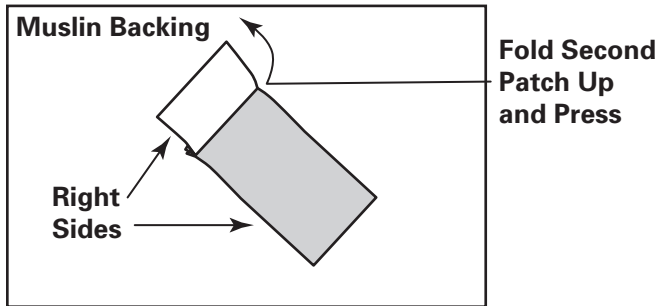

Fig. 9-3
4. Fold the second patch right side up and over the seam allowance. Press flat. Pin the center of the patch to the muslin. Trim the edges of the second patch even with the first at both ends of the sewn seam. (Fig. 9-3)